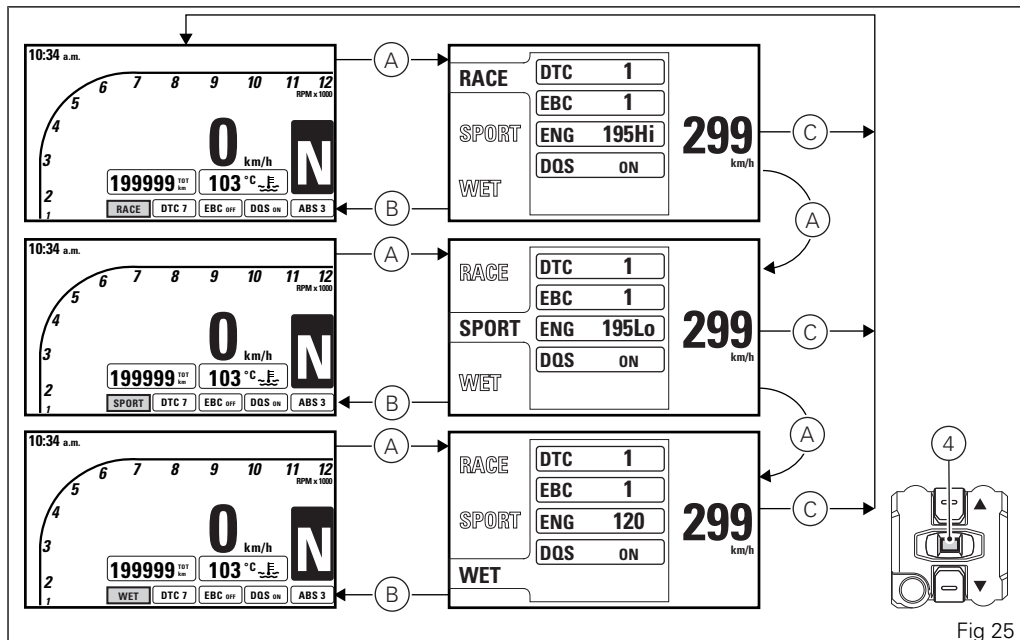

Fig 25
The displayed information are the settings stored in every single Riding Mode. The stored settings may be the factory ones (Ducati default settings) or the ones customized by the owner. Any time the CONFIRM MENU button (4) is pressed, you highlight a riding mode and the associated parameters are displayed (A, Fig 25).
Once the desired riding mode is highlighted, confirm the selection by holding down the CONFIRM MENU button (4) for 2 seconds: the new riding mode selection is saved and the Standard Screen is displayed (B, Fig 25).
Once the desired riding mode is highlighted, if the CONFIRM MENU button (4) is not pressed within 10 seconds, the new riding mode selection is not stored and the Standard Screen is displayed (C, Fig 25).